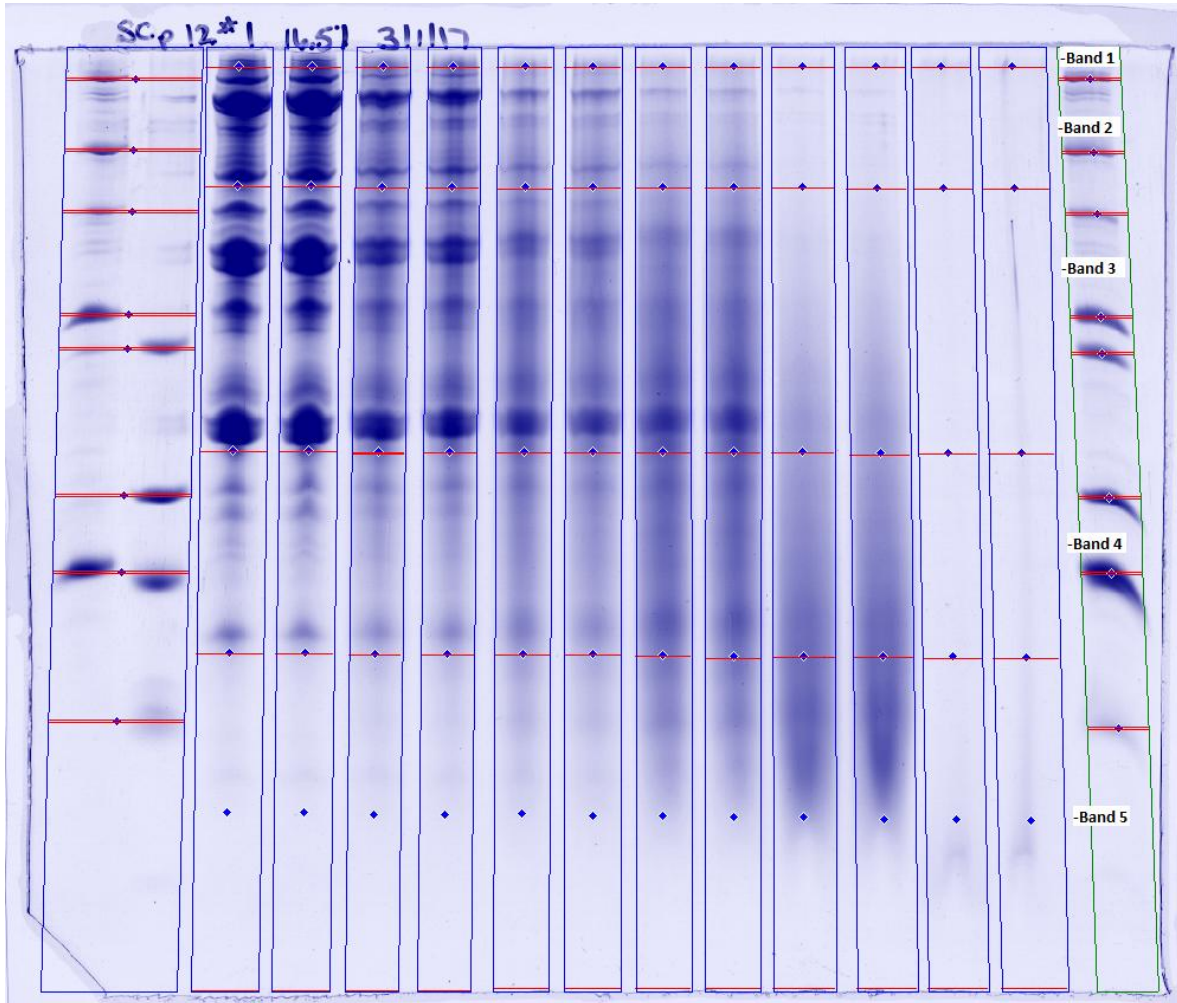
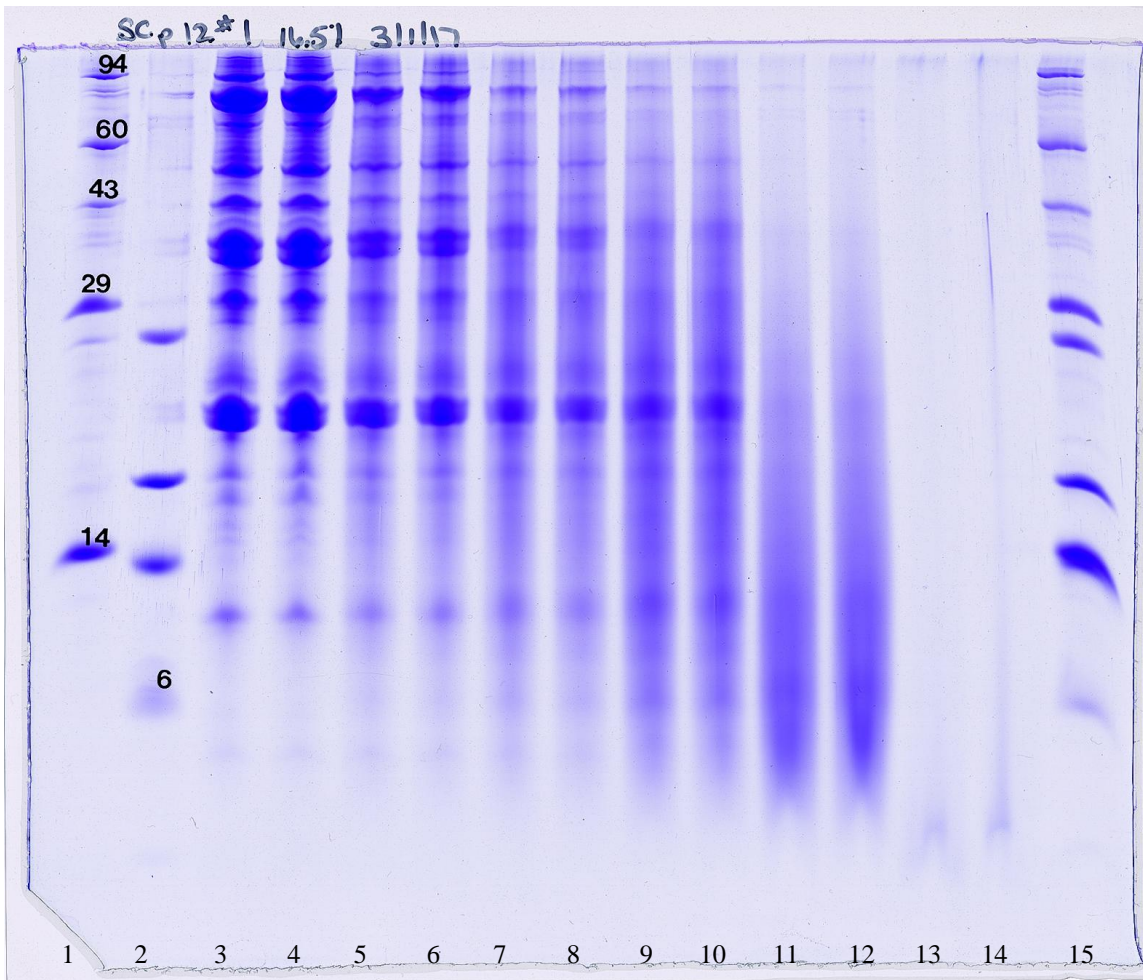

Figure 1. Image of band marking (MW ranges) for gel SC p.12#1.
Figure 2. Image of gel SC p.12#1.
Results of the electrophoretic analysis of your soy protein samples, received 2/28/17, are presented on the following pages. The molecular weight (MW) range examined extended from ~2.5 to 100 kDa as shown in the enclosed peak density profile versus MW graphs. Table 1 shows the percentage of total stain per lane between the molecular weight ranges of >100 kDa, 50-100 kDa, 20-50 kDa, 10-20 kDa, and <10 kDa. Figure 1 shows the MW ranges marked on the gel. Figure 2 is an image of the dried Coomassie blue stained gel, Table 2 describes the gel loading scheme. Figures 3-11 show peak density profiles for the samples. The original dried gel and methods are also included.